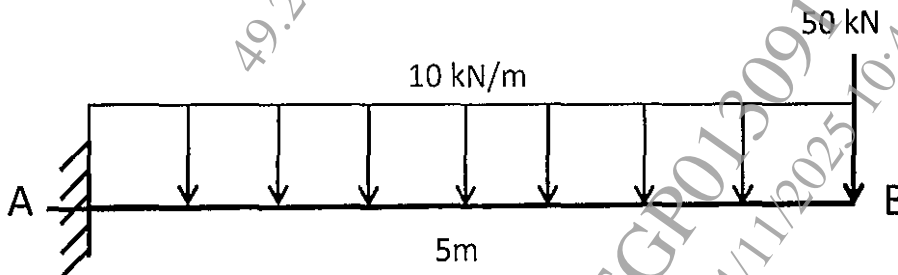

Figure 3
- b) Plot Shear force and Bending moment diagram for the cantilever beam loaded and supported as shown in Figure 3 [7]